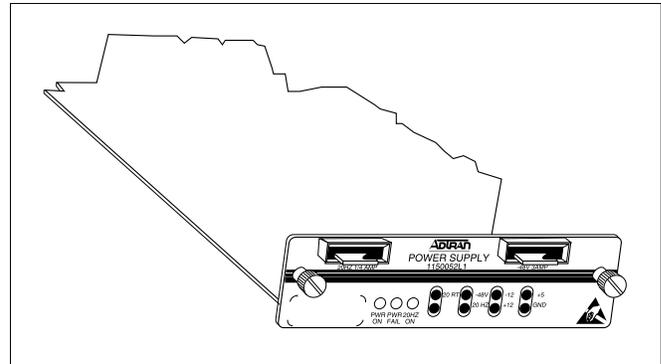

Figure 1. ADTRAN ACT PSU
1.1 This practice provides installation and maintenance information for the ADTRAN Advanced Communications Terminal Power Supply Unit (ACT PSU). **Figure 1** is a drawing of the unit. A detailed product description and specifications can be found in the ADTRAN ACT PSU Description Practice, Section 61150052L1-2. The part number and basic features for the unit are provided in **Table A**. The specifications for the ACT PSU are shown in **Table B**.